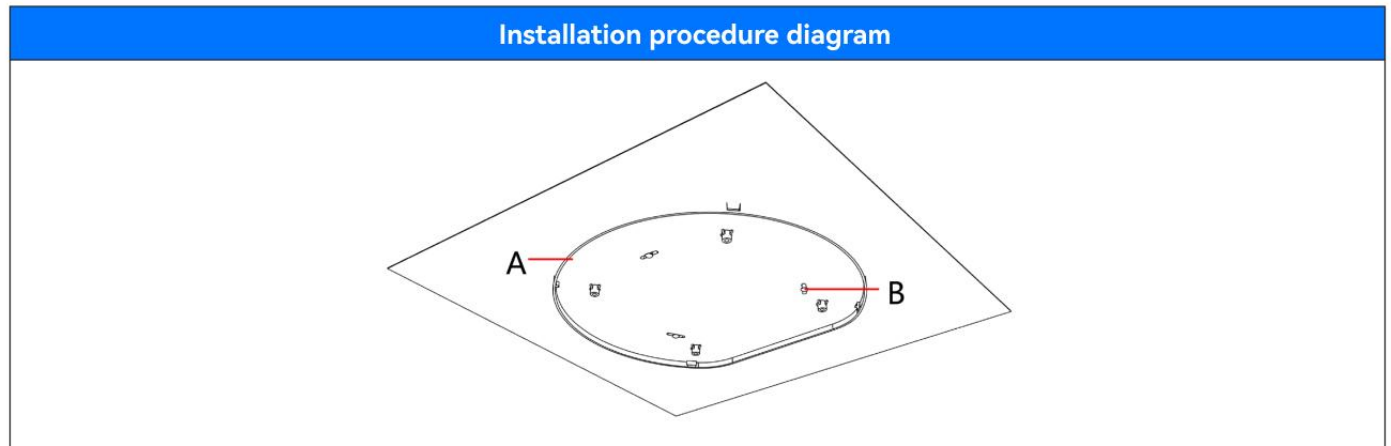

Figure 3.1
1. As shown in Figure 3.1, install the top cover A on the cabin ceiling and tighten screw B.